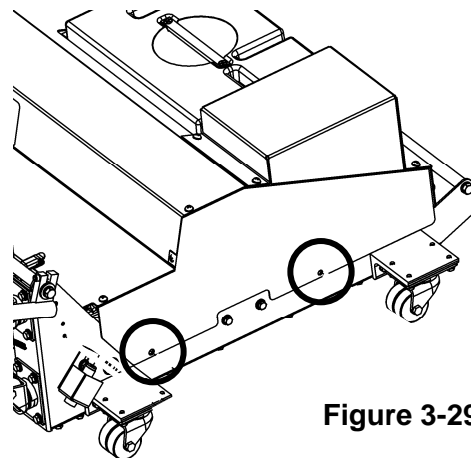

Figure 3-29
4. Remove the screws on each side of the hood, as shown in Figure 3-29, and lift the hood off the frame. Set aside the screws.